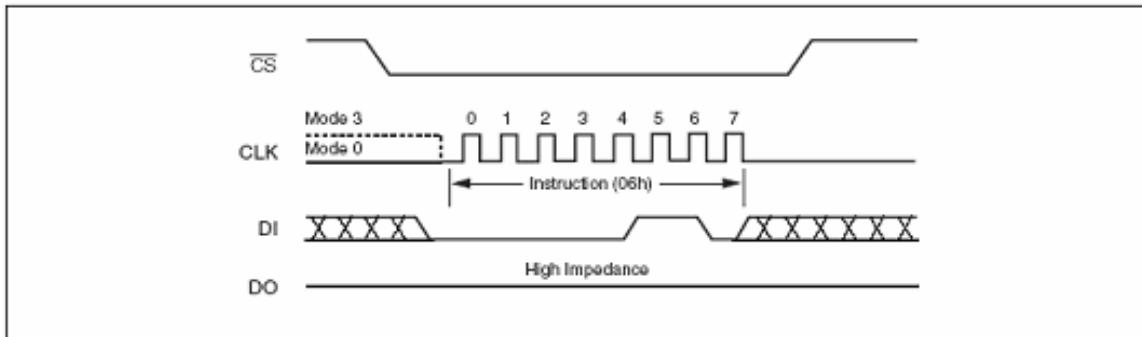

Figure 5. Write Enable Instruction Sequence Diagram
The Write Enable (WREN) instruction (Figure 5) sets the Write Enable Latch (WEL) bit. The Write Enable Latch (WEL) bit must be set prior to every Page Program (PP), Sector Erase (SE), Bulk Erase (BE) and Write Status Register (WSR) instruction.